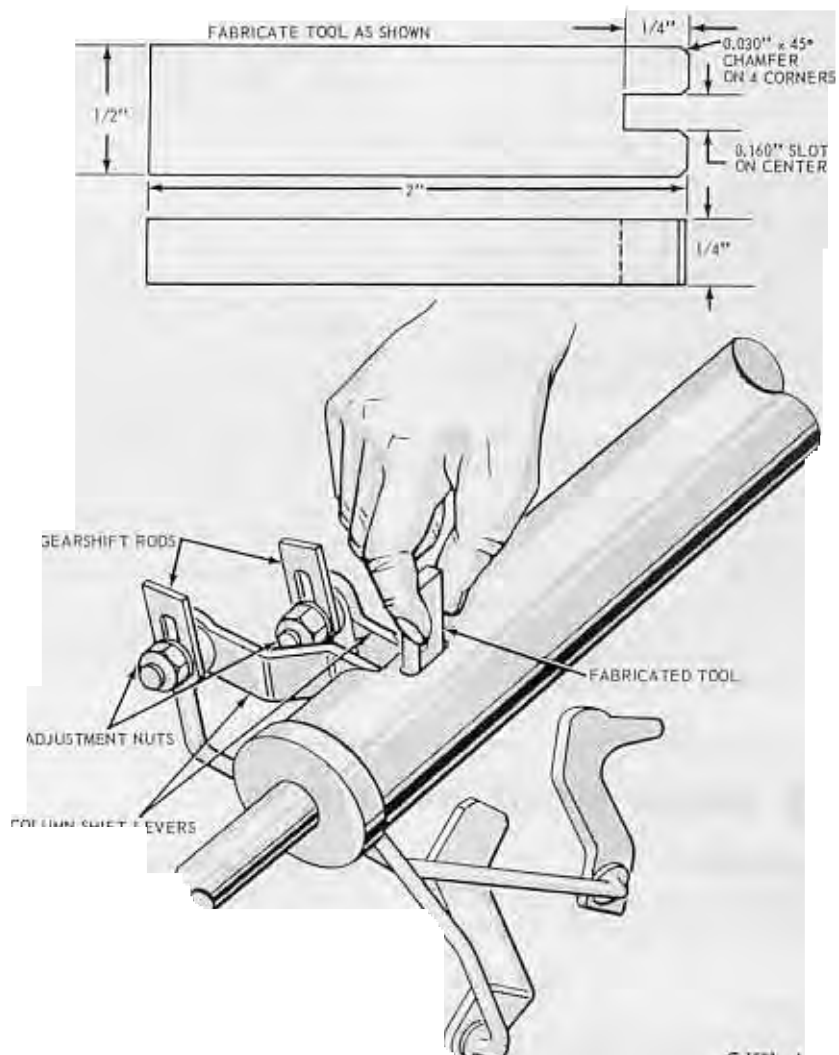

FIG. 2—Comet, Falcon and Fairlane Gearshift Linkage Adjustment
5. Install a new seal in the housing as shown in Fig. 2.
3. Insert a dealer fabricated special tool in the slot provided in the lower steering column. (See Fig. 2. It may be necessary to align the levers to insert the tool.
2. Remove the driveshaft. Insert the extension housing seal installation tool, Fig. 2, Part 6-1, into the opening of the extension housing to prevent the lubricant from leaking out.
8. Remove the tool (Fig. 2, Part 6-1) from the rear of the extension housing. Install the driveshaft, and torque rear U-bolt nuts to specification.